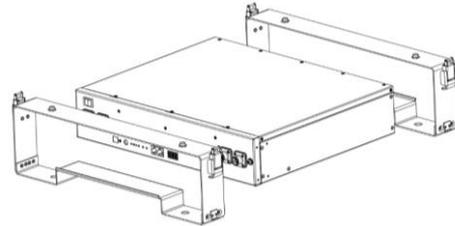

Figure3-5
2. Complete insert the B4850 into the bracket as figure3-5, pay attention to push the B4850 to the buckle position.